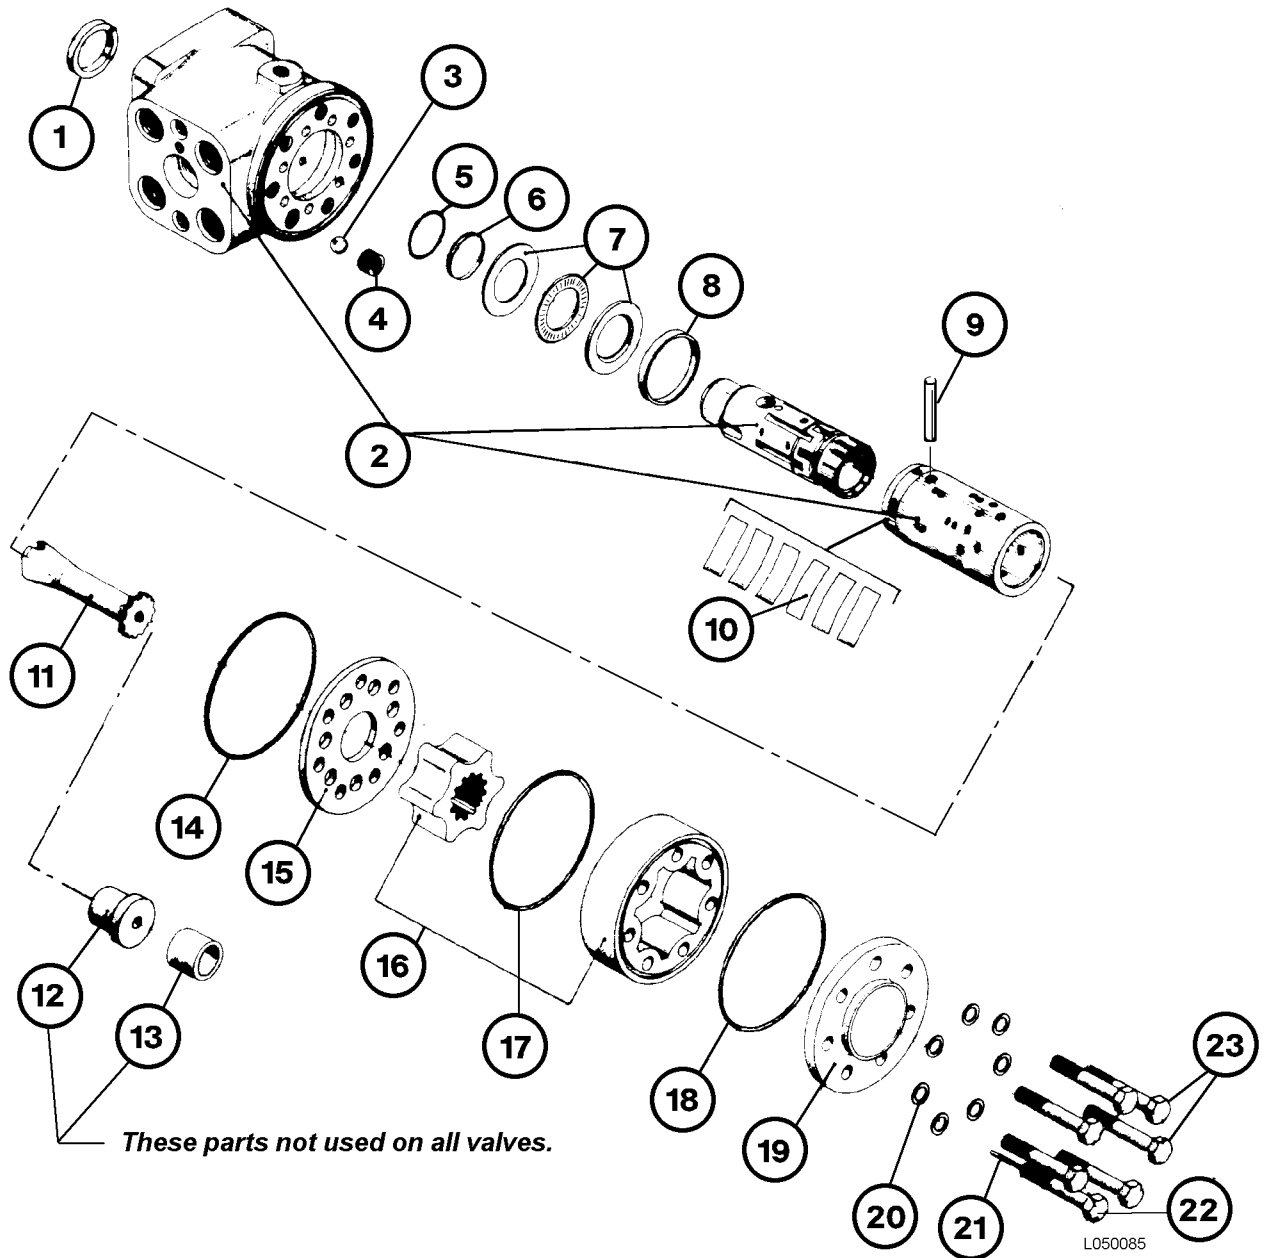

FIGURE 5-7. STEERING CONTROL VALVE
11. If the precharge is greater than 25 psi (172 kPa), proceed to Step 13. If the precharge is less than 25 psi (172 kPa), then set the regulator (6, Figure 5-7) for 25 psi (172 kPa) at gauge (5). Completely open valve (1 or 8, whichever one is connected to the accumulator), then slightly open valve (2) and slowly fill the accumulator based on the fill time rate specified in Table 1.
12. After 25 psi (172 kPa) precharge pressure is obtained in gauge (9), close valve (2).
13. If accumulator is not installed on the truck, set pressure regulator to 100 psi (690 kPa). If the accumulator is installed on the truck, set the regulator (6) for the operating precharge pressure listed in Table 2 based on the current ambient temperature the truck is in. Then open valve (2) and fill the accumulator.
14. After charging to the correct pressure, close valve (2). Let the pre-charge set for 15 minutes. This will allow the gas temperature and pressure to stabilize. If the desired precharge is low, adjust regulator, open valve (2) and add more nitrogen to obtain correct pressure on gauge (9). If precharge has exceeded the recommended pressure, then slowly bleed-off nitrogen pressure to obtain correct pressure. Nitrogen pre-charge is 1400 psi (9653 kPa) at 70°F (21°C) for all accumulators.